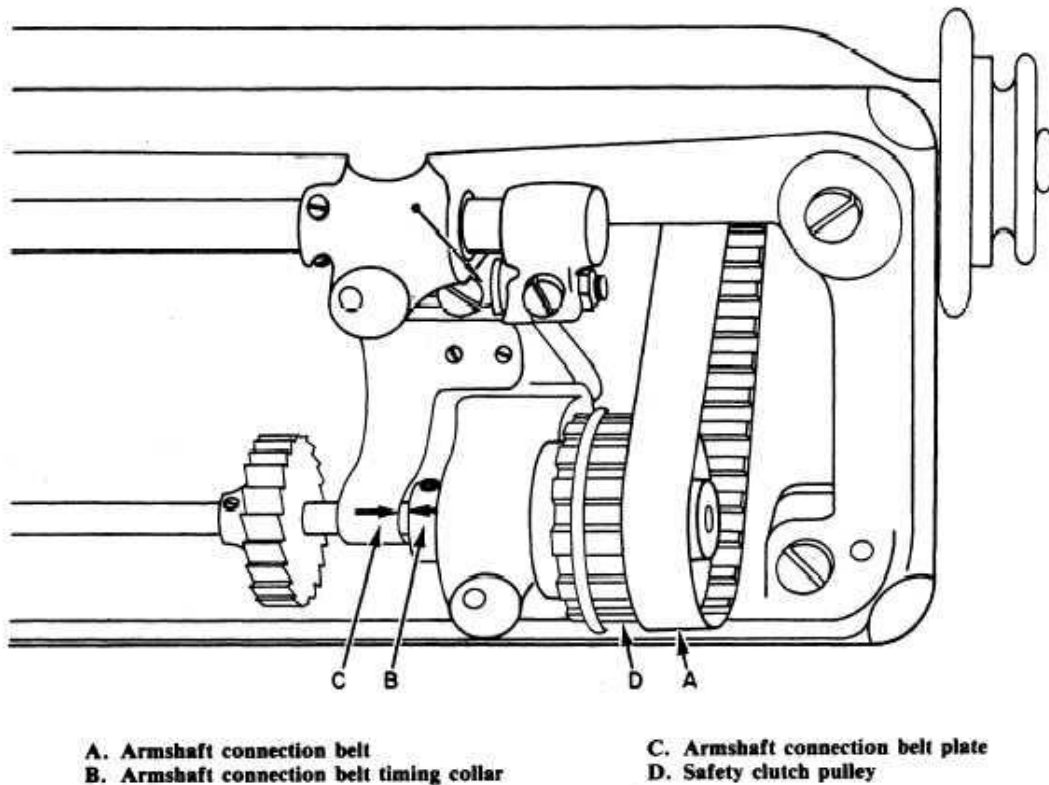

Figure 4: Timing arrows
To perform this timing step, must tilt the sewing machine back on its hinges. Turn the balance wheel toward the operator until the thread take-up lever reaches its highest point. Place the fingers of the left hand on top of the thread take-up lever and turning the balance wheel with the right hand and feel the high point of the thread take-up lever with the fingers of the left hand. Check to ensure the arrows on the timing collar and the timing plate are aligned as shown in (figure 4 (B) and (C)). If the arrows don't match, remove the connection belt from the lower pulley (figure 4 [A] and [D]). Turn the lower pulley by hand until the arrow on the timing collar (figure 4 [B]) is in direct line with the arrow on the timing plate (figure 4 [C]). Replace the connection belt. This completes this timing point.